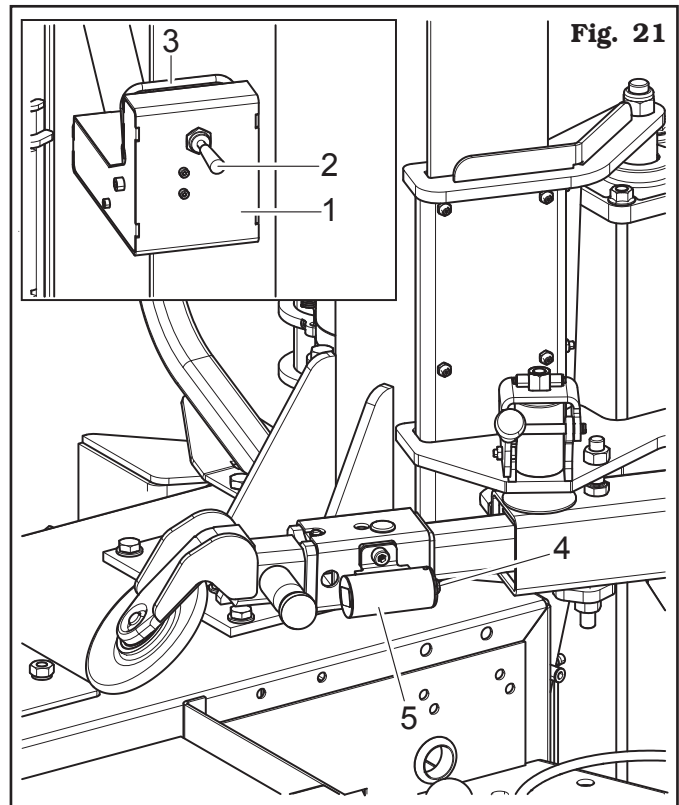

Fig. 20
- a handle control (**Fig. 20 ref. 1**), placed on the tool arm. Through this handle control you can control the vertical movement for the tool head introduction and bead coupling. Lift the lever (**Fig. 20 ref. 2**) to operate the upwards movement, and lower the lever (**Fig. 20 ref. 2**) to perform the downwards movement;
- a control with two push buttons: press the button (**Fig. 20 ref. 3**) to unlock the horizontal movement and to move upwards the tool arm, by pressing the push button (**Fig. 20 ref. 4**) you can unlock the horizontal movement and move downwards the tool arm;
CONTROLS (FIG. 20 REF. 3-4) (IN ORDER TO PREVENT THE WRONG USE OF THE TYRE CHANGER) ARE OPERATIVE ONLY IF THE TOOL HEAD (FIG. 20 REF. 7) IS IN COMPLETELY LIFTED POSITION. OPERATE LEVER (FIG. 20 REF. 2), BY SHIFTING IT UPWARDS, IN ORDER TO MOVE THE TOOL HEAD TO SUCH POSITION.
- a handle control (**Fig. 20 ref. 5**), which through a pulling and pushing movement, in combination with the release button (**Fig. 20 ref. 6**), allows the adjustment of the tool head on the wheel diameter (only horizontally).